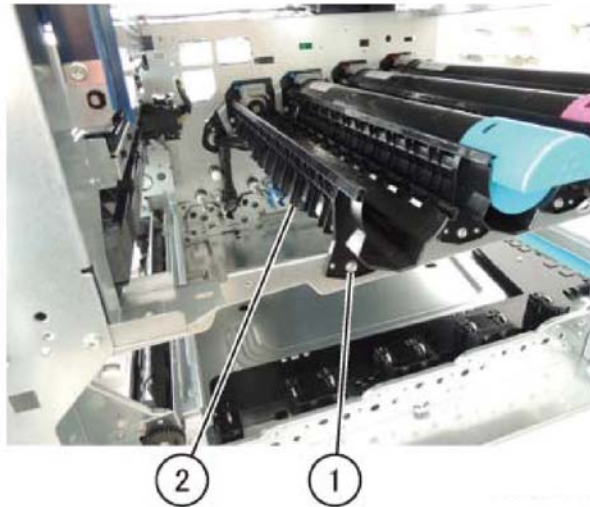

Figure 2 Dispenser K
12. Remove dispenser (K), Figure 2.
- a. Remove the screw (1).
- b. Remove dispenser (K) (2).